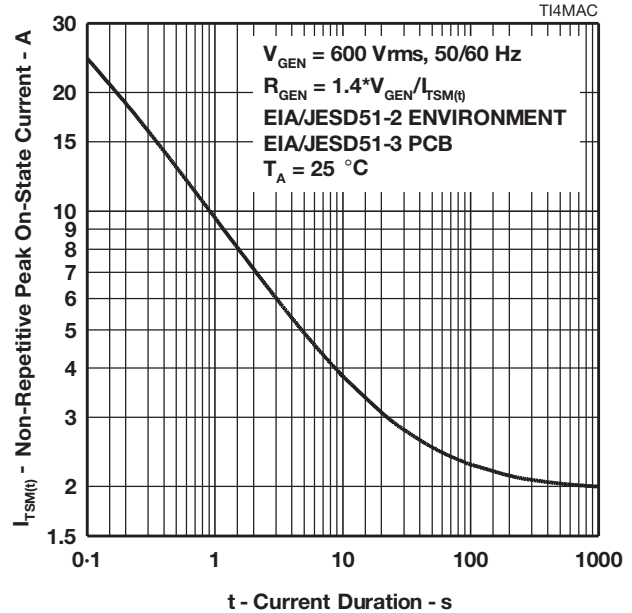

Figure 11.
10. EIA/JESD51-2 environment and EIA/JESD51-3 PCB with standard footprint dimensions connected with 5 A rated printed wiring track widths. See Figure 11 for the current ratings at other durations. Derate current values at $-0.61\%/\text{C}$ for ambient temperatures above 25°C .